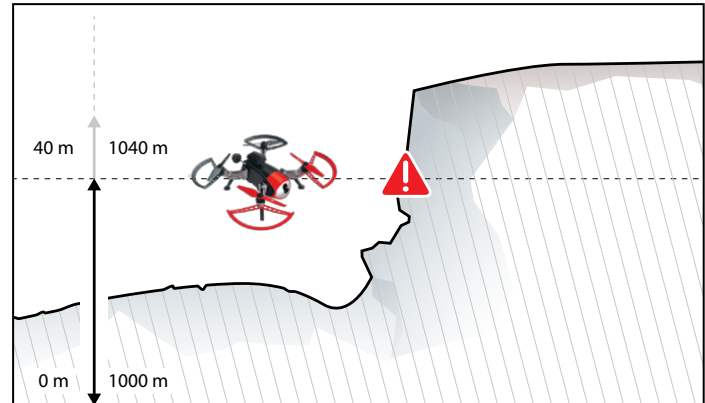

Fig. 15
- Study »Fig. 15.
The pilot must be aware that the Navigator 250 does not consider obstacles that are within the set height and can therefore easily crash into objects in its path (see »Fig. 15).